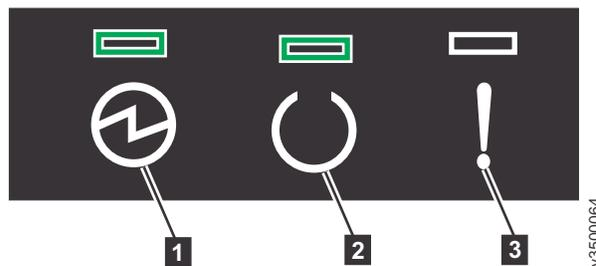

Figure 21. Node canister LEDs
2. Check the LEDs on each node canister in the control enclosure (see Figure 21).